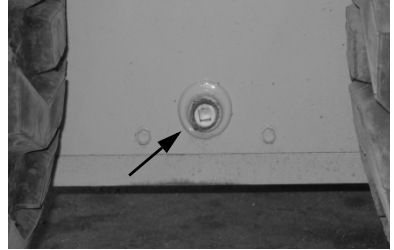

Figure 33 Fill Plug Location
2. Remove the fill check plug (Figure 33) from each chaincase cover. The oil level should be at the plug level or no more than 1/4 in. (6 mm) below.
3. If the level is low, add fluid through the fill plug (Figure 33) until the oil level reaches the check plug hole. Reinstall the plugs.